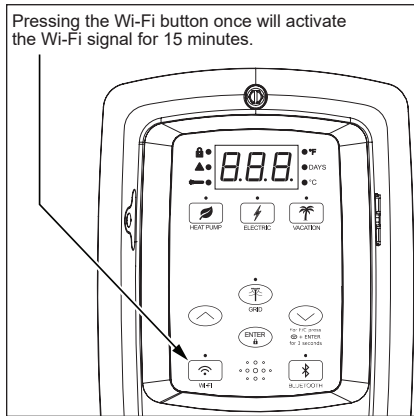

Figure 26 - Wi-Fi Control
- 1 To activate the Wi-Fi signal, press the Wi-Fi button once. The LED will blink on and off in 1/2 second intervals. Wi-Fi will activate pairing mode (Figure 26).